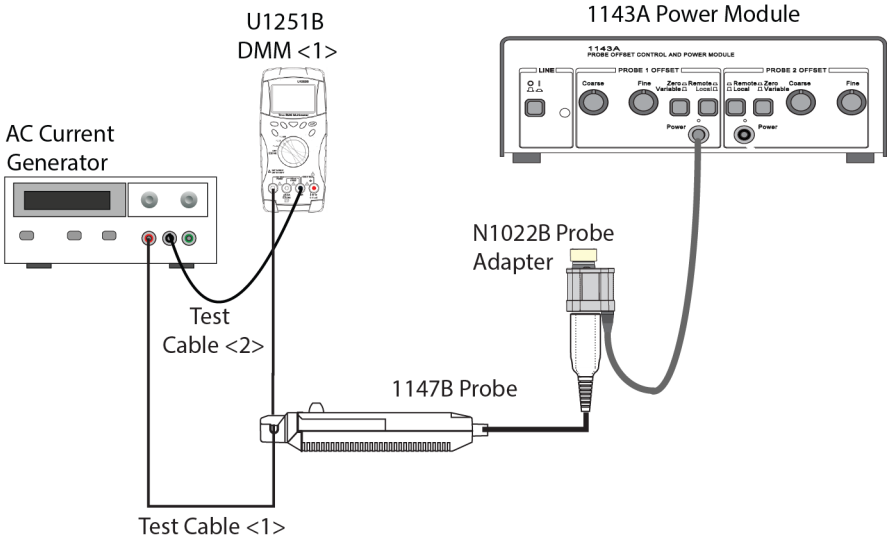

Figure 7 Setting up AC Current Generator
- 4 Connect the test setup as shown in Figure 7 on page 19 as per the following substeps.